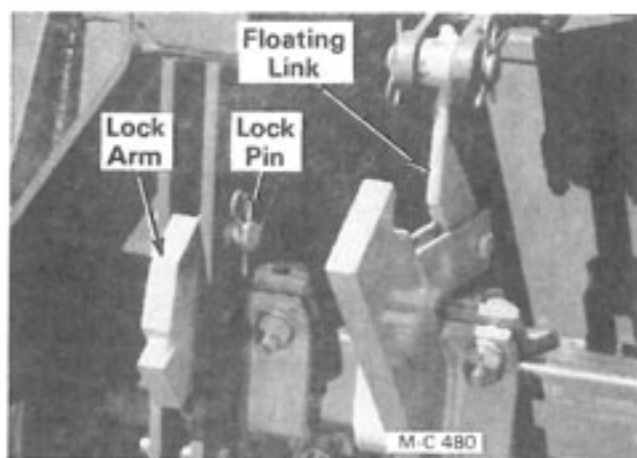

Figure 11A
1. All Shredders starting with serial number 46070 are equipped with a transport lock assembly, see Figure 11A.